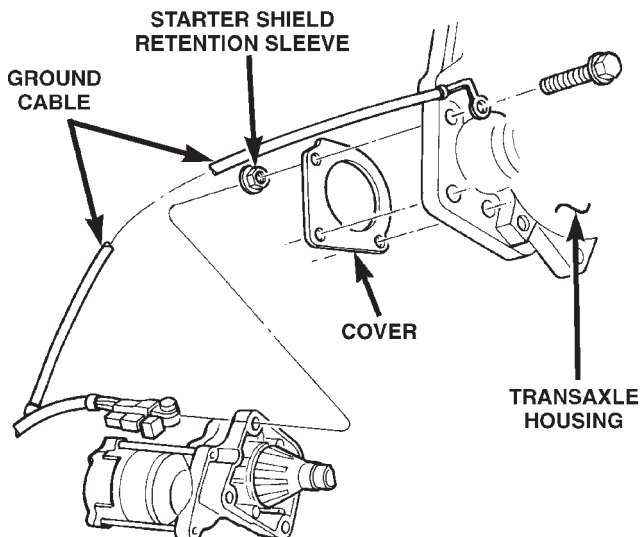

Fig. 9 Starter – 3.3L Engine
- (2) Raise vehicle.
- (3) For easier servicing, do not remove the wiring from starter at this time.
- (4) Remove three starter attaching bolts from engine/transaxle (Fig. 9).